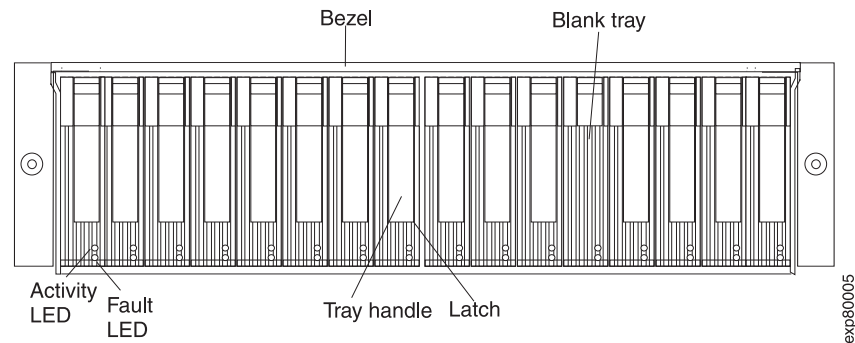

Figure 34. Hot-swap E-DDM LEDs
2. Check for Fault LEDs shown in Figure 34. If any amber LEDs are lit, see "Solving problems" on page 93.